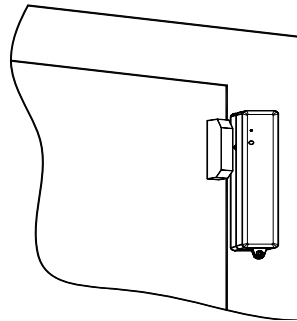

Fig.5
1. It is recommended to attach the transmitter to the fixed frame, and the magnet to movable part (namely door or window). Refer to Figure 5, and make sure the gap between the magnet and the mark side of the transmitter is kept within 1 cm.